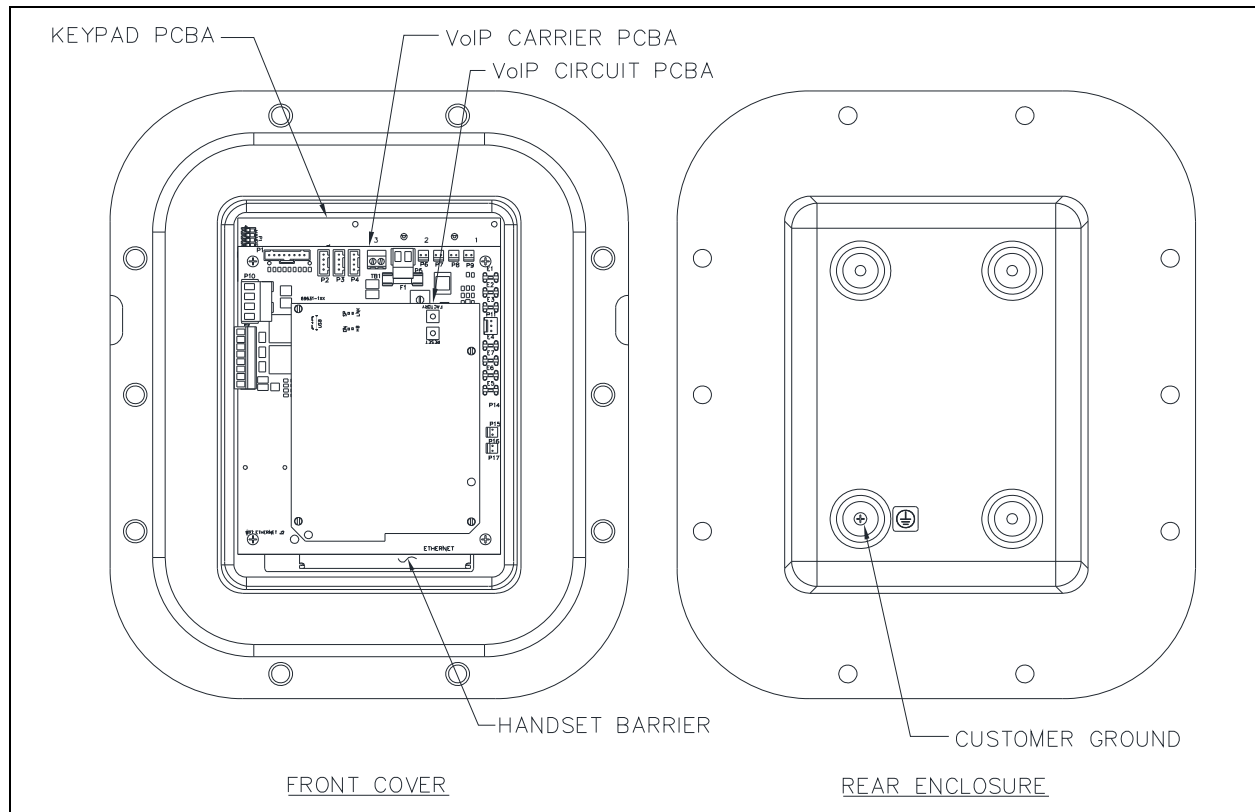

Figure 4. Model 352-70x Division 1 VoIP Telephone—Internal View
All standard components are mounted to the rear of the front cover (see Figure 4).
2. Secure the ground conductor to the ground terminal, located in the upper right corner in the rear of the enclosure (see Figure 4 on Page 4).